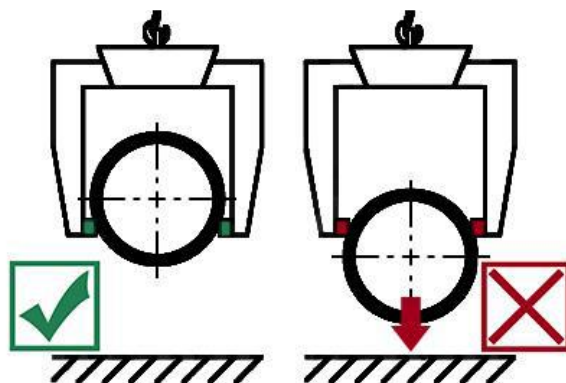

Fig. 2
- The height-adjustable support must always be adjusted so, that the gripping elements always grip the concrete pipe below the largest pipe diameter, otherwise there is a danger of slipping! Fig. 2